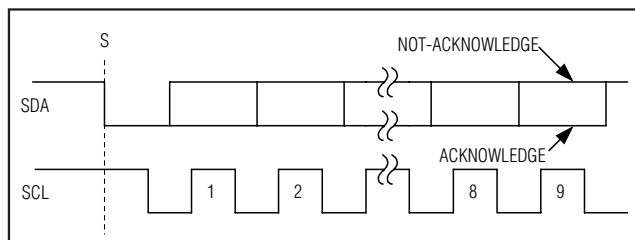

Figure 6. Acknowledge Bits
Data transfers are acknowledged with an acknowledge bit (A) or a not-acknowledge bit ($\bar{A}$). Both the master and the MAX11644/MAX11645 (slave) generate acknowledge bits. To generate an acknowledge, the receiving device must pull SDA low before the rising edge of the acknowledge-related clock pulse (ninth pulse) and keep it low during the high period of the clock pulse (Figure 6). To generate a not-acknowledge, the receiver allows SDA to be pulled high before the rising edge of the acknowledge-related clock pulse and leaves SDA high during the high period of the clock pulse. Monitoring the acknowledge bits allows for detection of unsuccessful data transfers. An unsuccessful data transfer happens if a receiving device is busy or if a system fault has occurred. In the event of an unsuccessful data transfer, the bus master should reattempt communication at a later time.